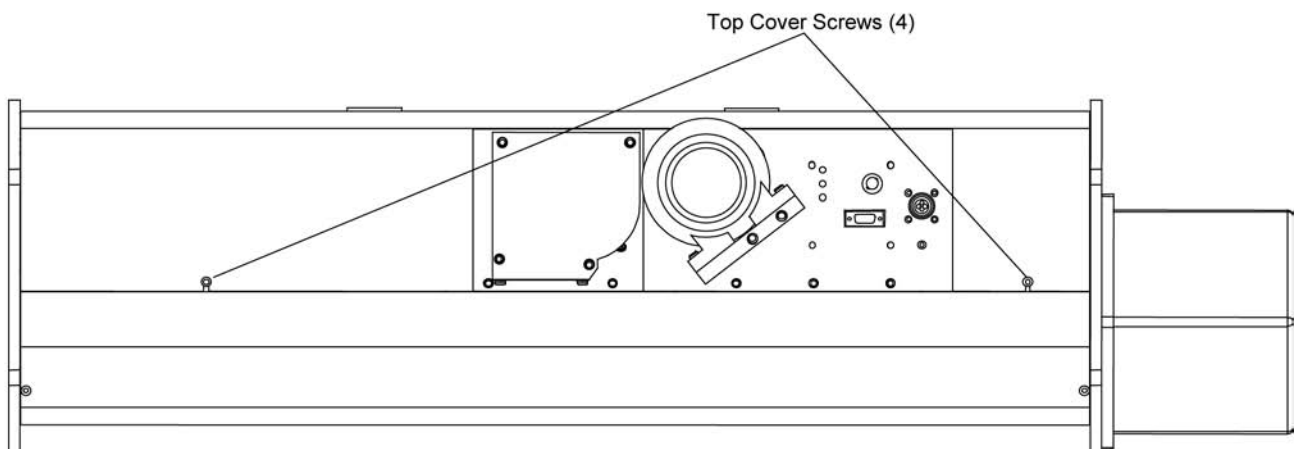

Figure 8-9
2. Loosen the four screws fastening the top cover of the Nephelometer and remove the cover (Figure 8-9).